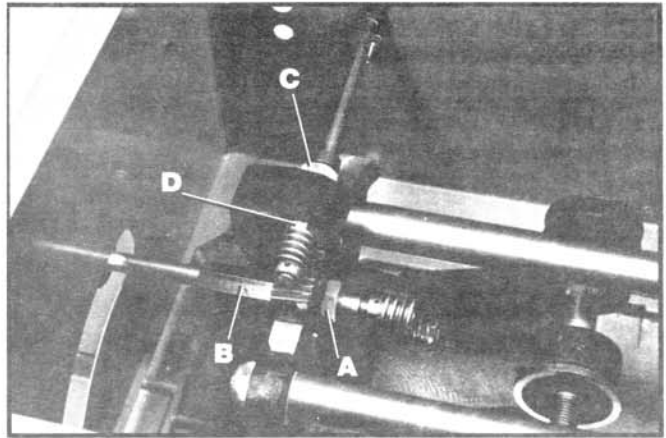

Fig. 47
3. **Adjusting blade raising mechanism** - Loosen locknut (A) Fig. 47, and turn eccentric sleeve (B) until all play is removed in mechanism and tighten locknut (A).
4. **Adjusting blade tilting mechanism** - Loosen locknut (C) Fig. 47, and turn eccentric (D) until all play is removed in mechanism and tighten locknut (C).